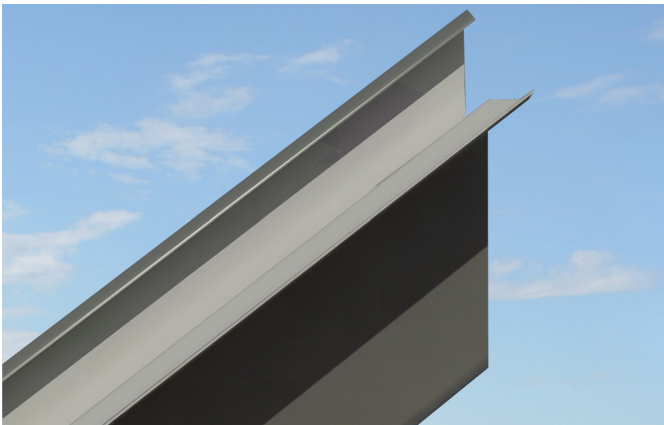

Fig.6.
1. Prior to fixing, offer the left hand trim up to the apex of the ridge and plumb cut the depth of the trim to the desired angle dependent on the pitch of the roof (Fig. 6).